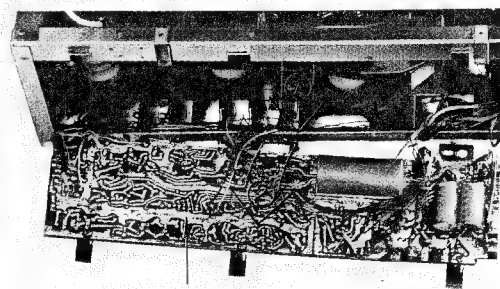

Fig. 2-9
3. Remove the main circuit board as shown in Fig. 2-9.